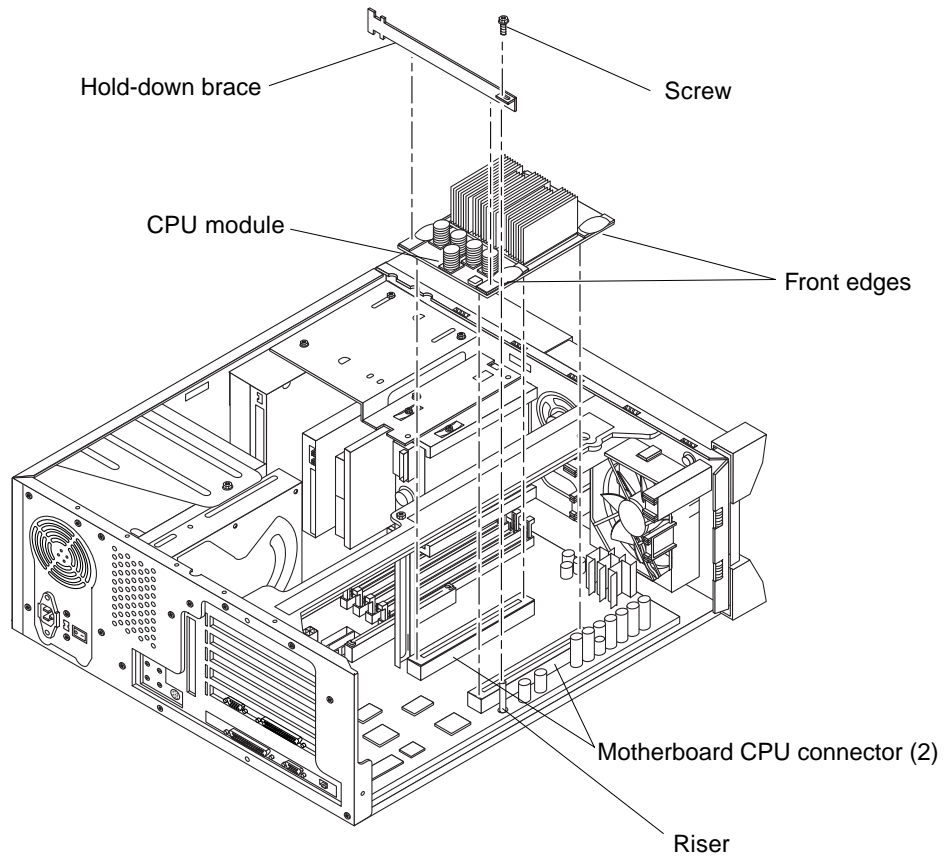

FIGURE 8-1 Removing and Replacing the CPU Module
3. **Remove the CPU module as follows (FIGURE 8-1):**
1. **Replace the CPU module as follows (FIGURE 8-1):**